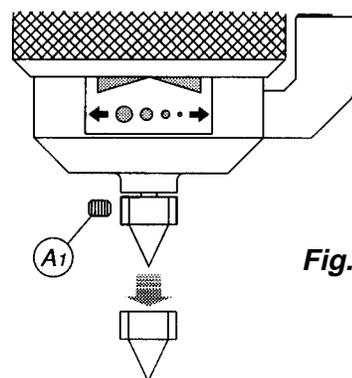

Fig. 28
2. Remove the set screw (A1) (Fig 28).